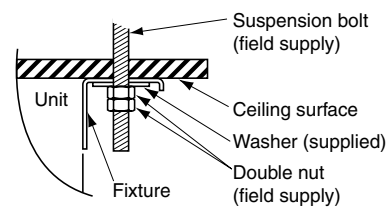
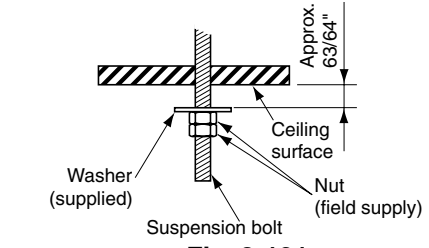

Fig. 3-119
Fig. 3-121
- (6) Carry out the preparation for suspending the indoor unit. The suspension method varies depending on whether there is a suspended ceiling or not. (Figs. 3-119 and 3-120)
- (7) Suspend the indoor unit as follows:
- a) Mount 1 washer and 2 hexagonal nuts on each suspension bolt as shown in Fig. 3-121.